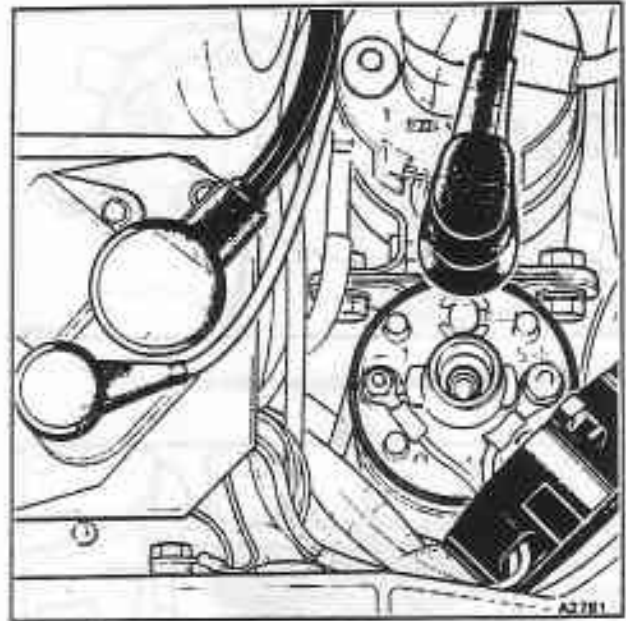

Fig. B4-58 Ignition driver modules (amplifiers) and coils
(see fig. B4-58)
Ignition coil(s) - To remove and fit (see figs. B4-58 and B4-59)
3. Withdraw the high tension (HT) cable from the centre of each coil.
5. Unscrew the retaining nuts and remove the cables from the positive and negative terminals of each coil (see fig. B4-58).